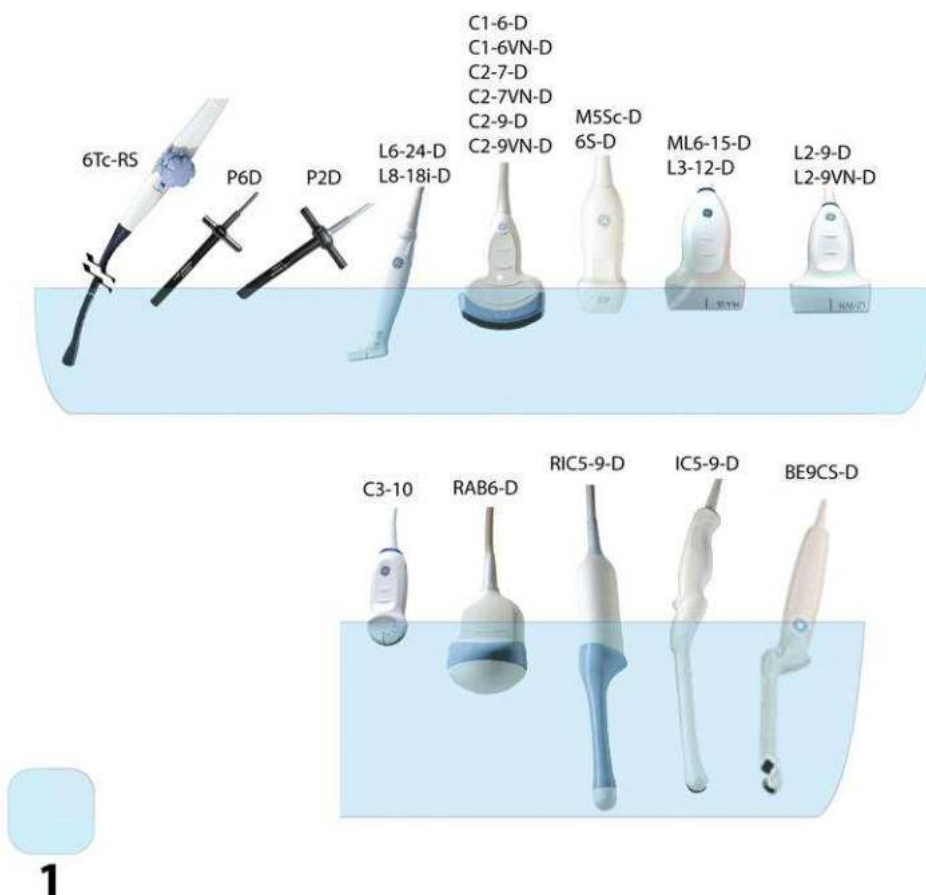

Figure 11-12. Probe Immersion Levels, 1 = Fluid Level
1. Ensure the probe has been disconnected from the console. Replace gloves and fill a sink or basin with warm potable water (30 - 40°C) to a level allowing immersion of the probe up to the immersion line shown in Figure 11-12 on page 11-30.
Do not submerge probe beyond the immersion line shown in Figure 11-12 on page 11-30.
1. Ensure the probe has been disconnected from the console. Replace gloves and fill a sink or basin with High-Level Disinfectant diluted in accordance with the disinfectant manufacturers instructions to a level allowing immersion of the probe up to immersion line shown in Figure 11-12 on page 11-30.